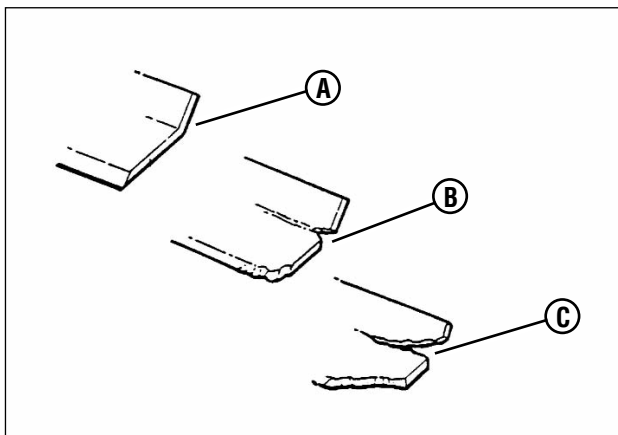

Figure 42: Mower blade wear limits
1. Inspect the blade frequently for signs of excessive wear or damage (**Figure 42**):
5. Inspect the condition of the blade (**Figure 42**).